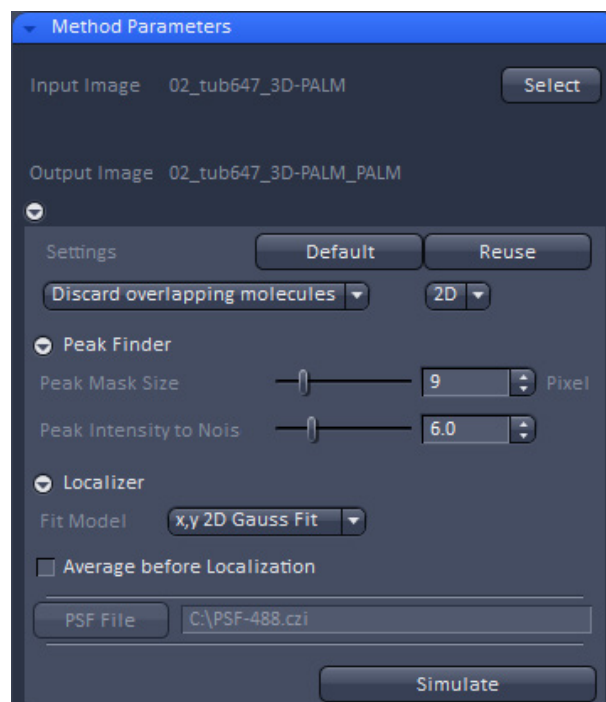
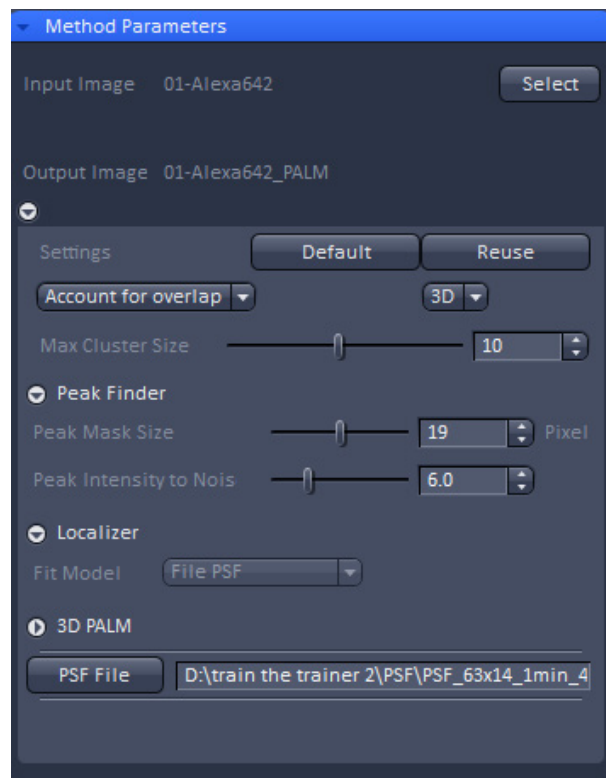

Fig. 55 Methods Parameter tab for 2D PALM data set
Fig. 56 Methods Parameter tab for 3D PALM data set
- Expand the Parameter definition field in the **Methods Parameter** tab and select the image. The respective settings for a 2D PALM (Fig. 55) or a 3D PALM data set (Fig. 56) will be available.